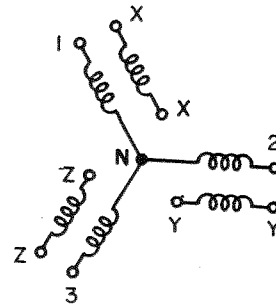

Figure 7. Phase Sections Identified, 9 Wire, 3 Phase, Star, Motor
The remaining 2-terminal group must now be in phase with the remaining branch (3) of the star group. Mark each of its terminals Z. Figure 2a may now be redrawn as shown in figure 7.